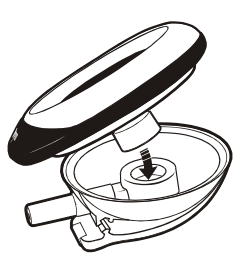

Figure 1
1. Snap the gauge into the adapter (Figure 1).